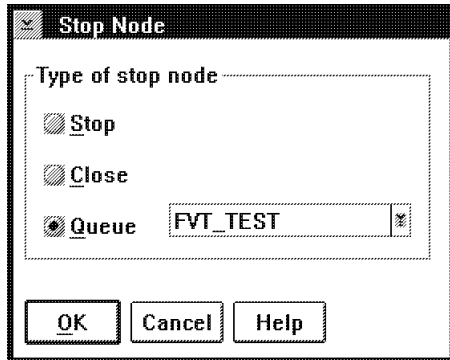

Figure 39. Stop Node Window
1. Double-click mouse button 1 on the stop node in the work process diagram. You see the Stop Node window shown in Figure 39 on page 76.